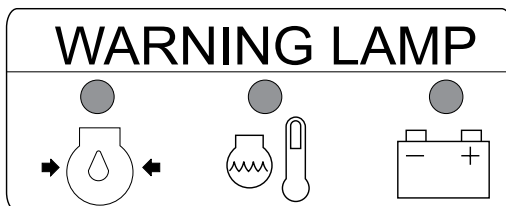

Figure 98. Engine Warning Lamps
2. In addition, the battery charge, oil pressure and water temperature alarms will be displayed on the engine warning display (Figure 98).